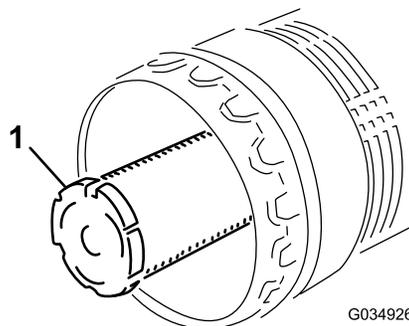

Figure 92
**Note:** Replace the secondary filter every 3 primary filter services (Figure 92).